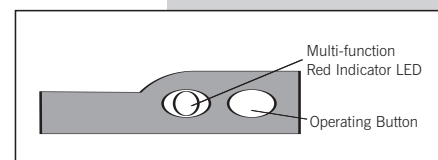

Fig 31
**12.2** Function of red LED indicator (see Fig 31)